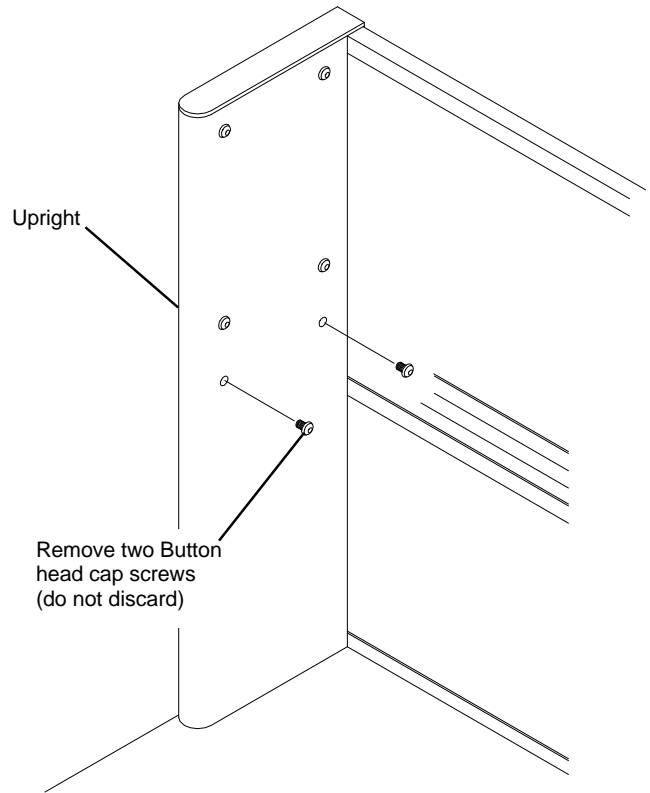

Figure 2
1. Determine the Corner Shelf height and remove two 1/4"-20 Button head cap screws from each Upright at the desired height. Use the 5/32" Allen wrench provided. See **Figure 2**.